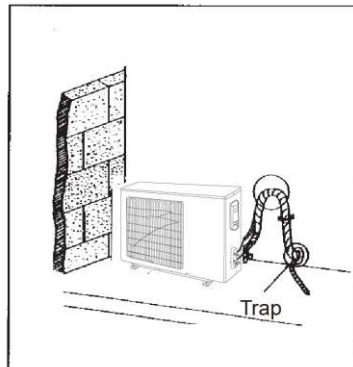

Fig. 4.15
- 2). All pipes are bound and taped together and also should be trapped to prevent water from returning to the room (See Fig. 4.15)